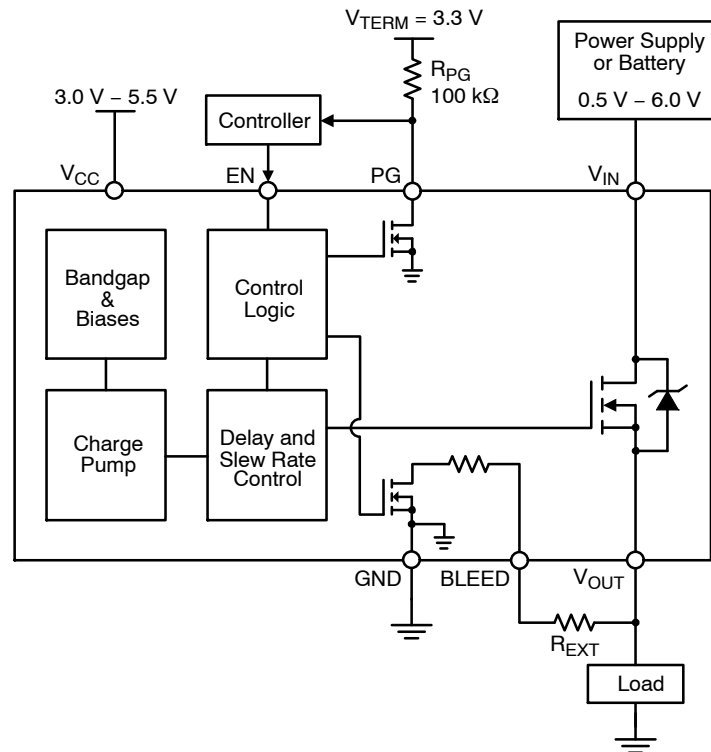
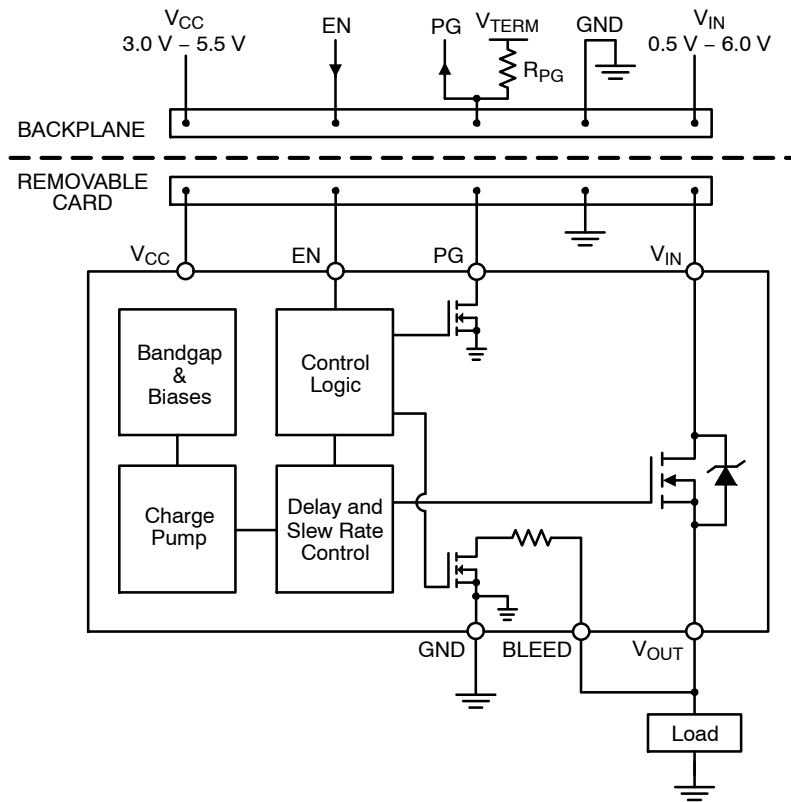

Figure 3. NCP45526 Typical Application Diagram – Load Switch
Figure 4. NCP45526 Typical Application Diagram – Hot Swap
Is it required that the BLEED pin be connected to  $V_{OUT}$  either directly (as shown in Figure 4) or through an external resistor,  $R_{EXT}$  (as shown in Figure 3).  $R_{EXT}$  should not exceed 100 M $\Omega$  and can be used to increase the total bleed resistance and decrease the load bleed rate.
The NCP45526 devices have a power good output (PG) that can be used to indicate when the gate of the MOSFET is fully charged. The PG pin is an active-high, open-drain output that requires an external pull up resistor,  $R_{PG}$ , greater than or equal to 1 k $\Omega$  to an external voltage source,  $V_{TERM}$ , that is compatible with input levels of all devices connected to this pin (as shown in Figures 3 and 4).